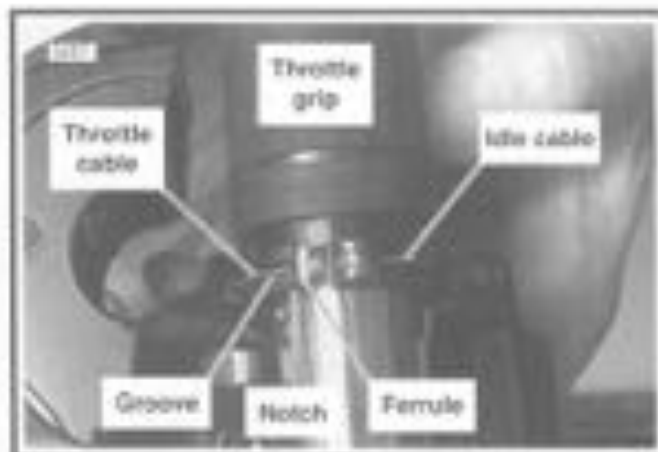

Figure 7-72. Install Throttle/Idle Control Cables on Throttle Control Grip
- See Figure 7-72. Position the lower switch housing beneath the throttle control grip. Install the brass ferrules onto the cable so that the end fittings seat in the ferrule recess. Seat the ferrules in their respective notches on the throttle control grip. Verify that the cables are captured in the groove molded into the grip.